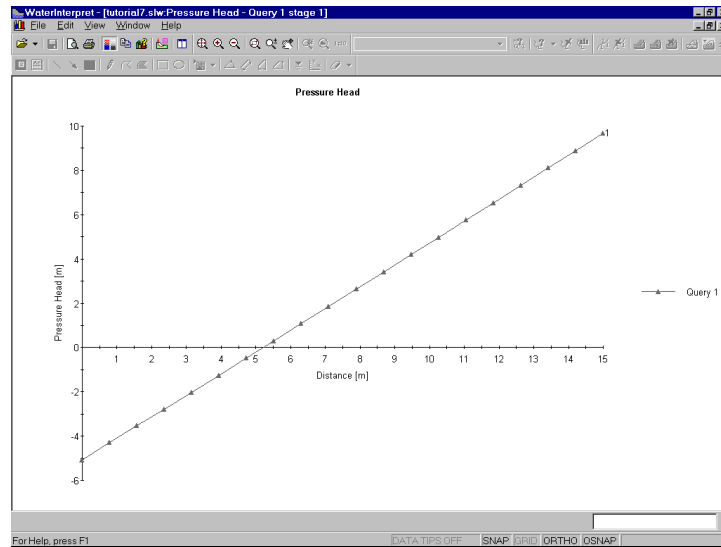

Figure 8-7: Query of Pressure Head data.
8. A shortcut to graph data for a single query, is to right click the mouse ON the Query line. Do this now, and select Graph Data from the popup menu. A graph will be immediately generated, as shown in Figure 8-7.